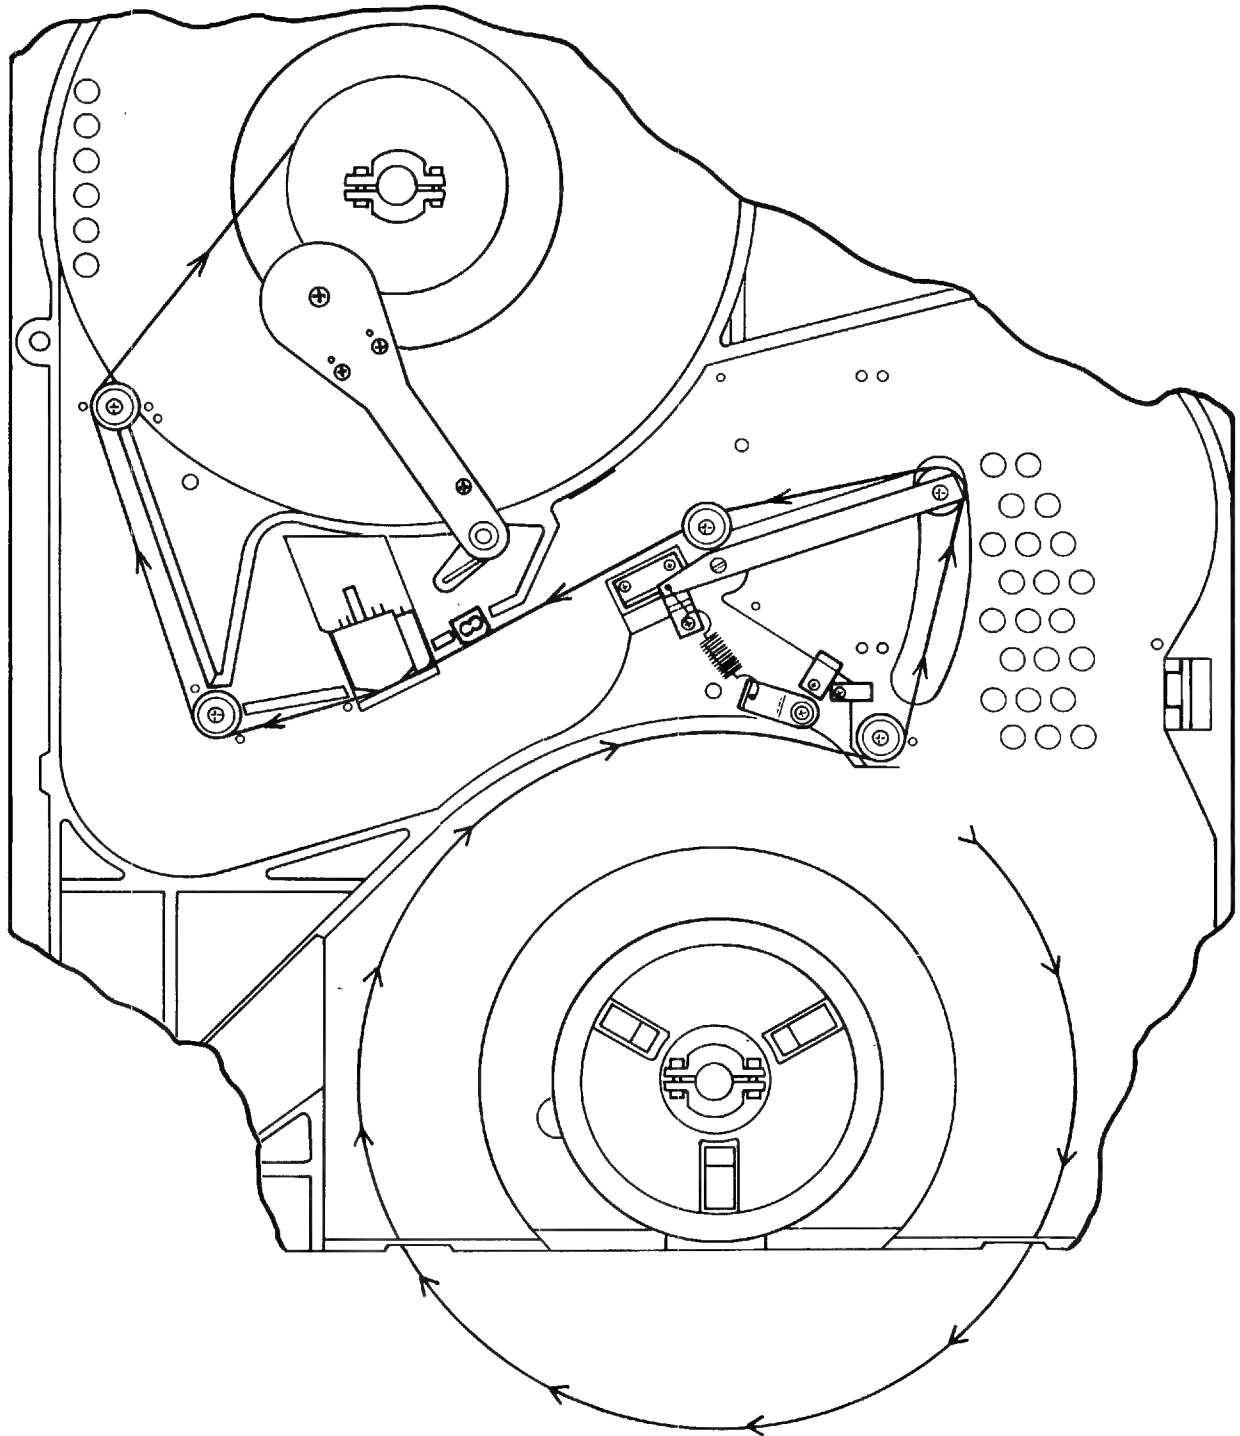

Figure 2-2. Tape Threading Path
- e. Thread tape along path shown in Figure 2-2. Carefully move tachometer assembly away from takeup hub, and, making one wrap of tape clockwise around takeup hub, gently replace tachometer assembly. Continue to wrap tape for FIVE (5) more revolutions of the takeup hub. Check that tape is seated correctly on guides and threaded properly over head assembly.